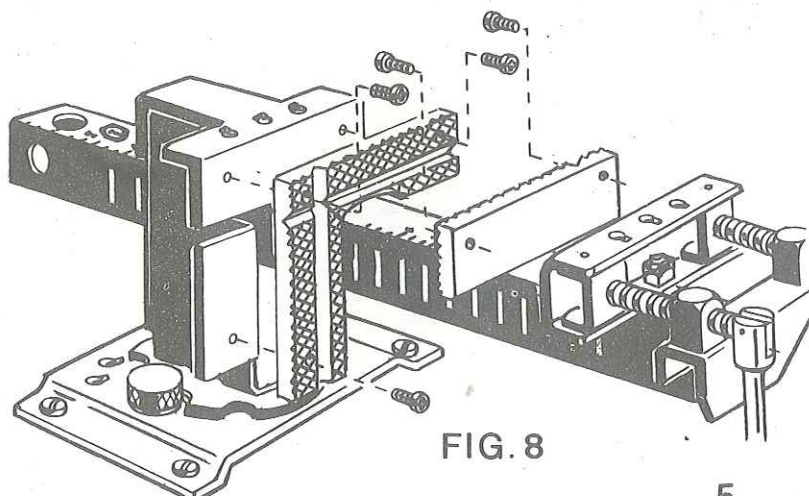

FIG. 8
To replace jaws, remove the two (2) Phillips head screws on the front jaw and (3) Phillips head screws on the rear jaw. Replace the screws into the new jaws and tighten. (See Figure 8).